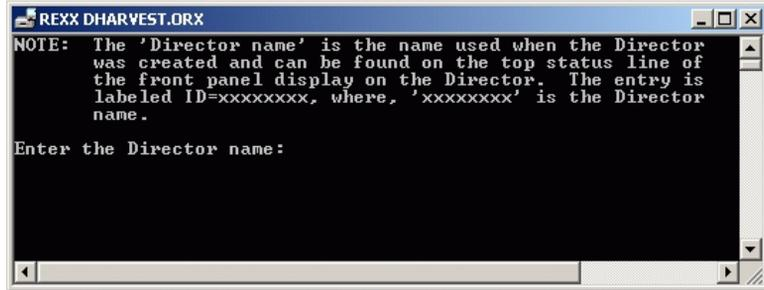

Figure 50 REXX DHARVEST.ORX Window (Second Window)
7. Type **Y** and press the **Enter** key. A second *REXX DHARVEST.ORX* window displays (Figure 50).